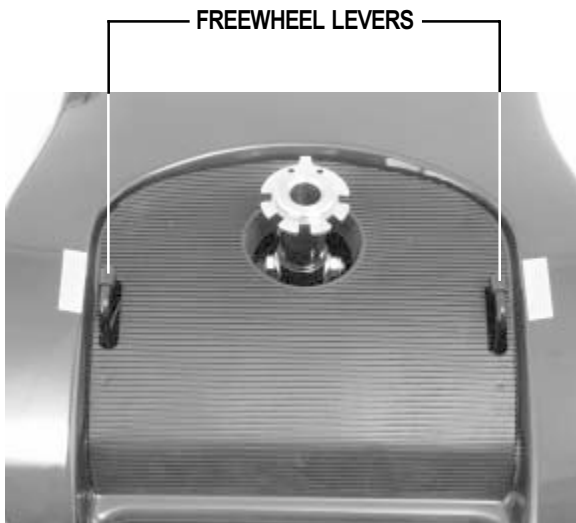

Figure 5. Drive Disengaged
For your convenience, the Jet is equipped with two freewheel levers located under the front of your seat. See figures 5 and 6. These levers allow you to disengage the drive motors and maneuver the chair manually.
1. Turn the freewheel levers rearward to disengage the drive motors. See figure 5.